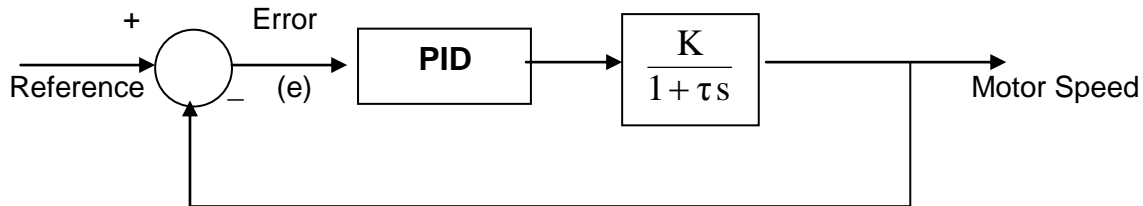

Figure M3.1: Block diagram of a closed loop PID controller
Figure M3.1 shows a block diagram of a closed loop PID controller:
b) Use **MATLAB Simulink** toolbox to build the model in Figure M3.1.